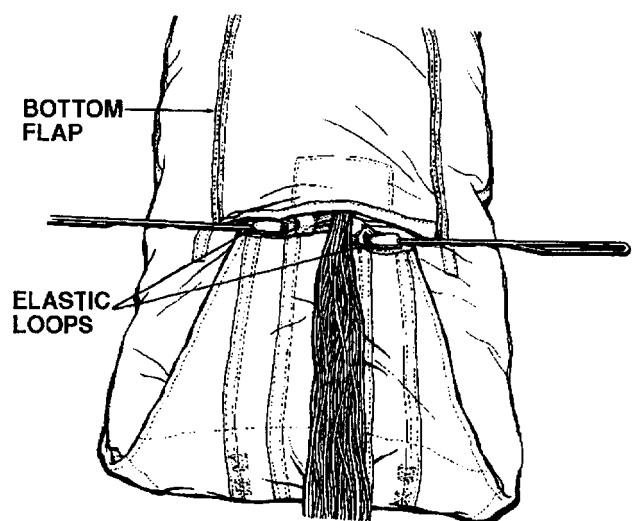

Figure 28. Bottom Cover Flap Temporarily Secured, Suspension Lines Positioned
x. Remove the locking tool from the LH fabric loop, pass the loop thru the matching flap slot and secure the fabric loop and the LH elastic loop on the flap with the locking tool. (QA)
y. Remove the locking tool from the RH fabric loop, pass the loop thru the matching flap slot and secure the fabric loop and the RH elastic loop on the flap with the locking tool. (QA)
z. Carefully remove the locking tools from each pair of loops and insert suspension line stowage hooks, outboard to inboard (Figure 28).
aa. Route the suspension lines centrally on the bottom flap and between the stowage loops (Figure 28).